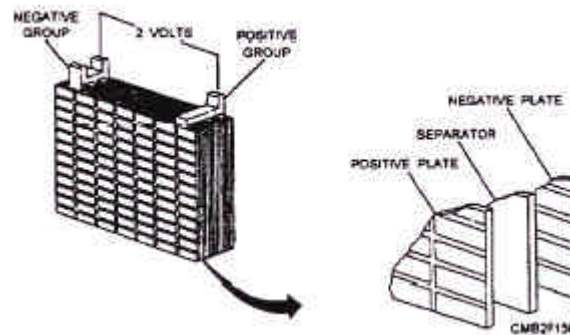

Figure 2-3.- Battery element.
**BATTERY ELEMENT.**- The battery element is made up of negative plates, positive plates, separators, and straps (fig. 2-3). The element fits into a cell compartment in the battery case. Most automotive batteries have six elements.